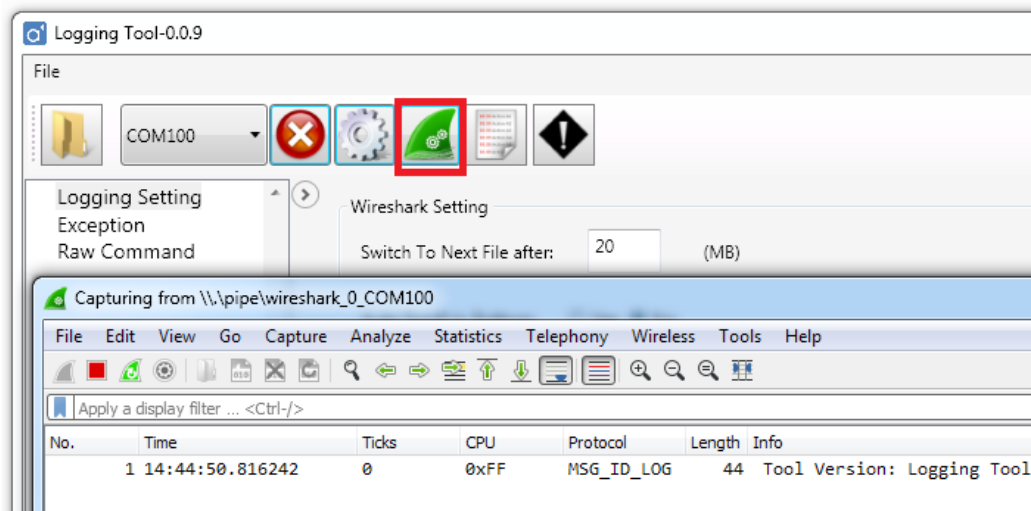

Figure 13. Start Wireshark Button
- 5) Click "Wireshark" as shown in Figure 13.